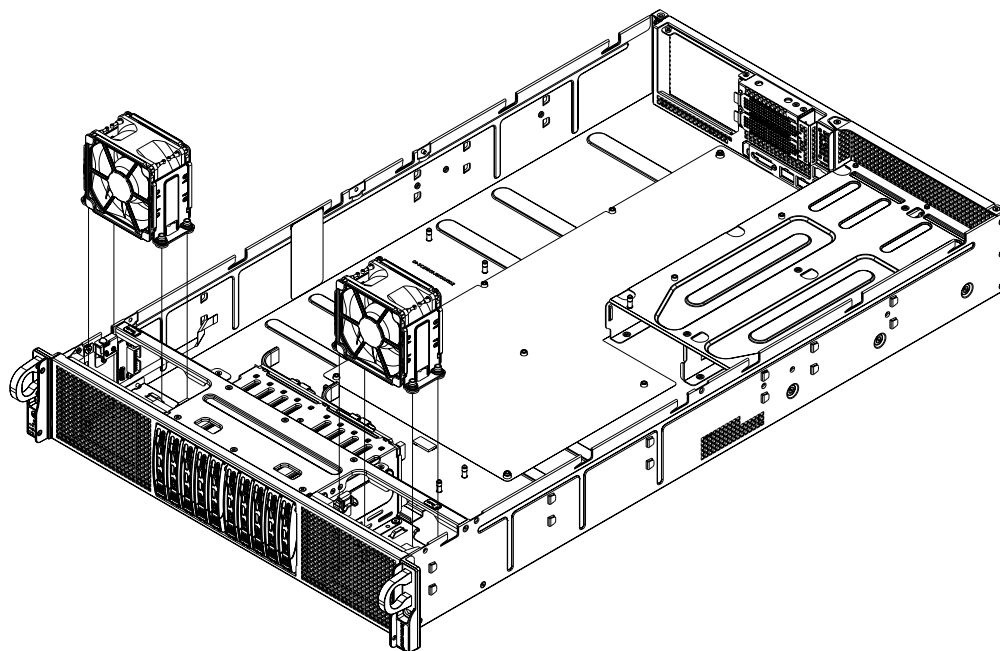

Figure 6-5 Front System Cooling Fan Access Example
1. Remove the chassis cover to access the fans, see the example in Figure 6-5 on page 51.